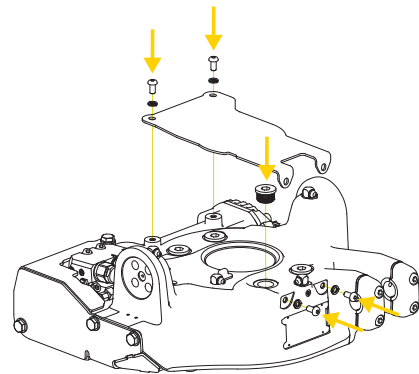

Figure 14. Remove the protective cover.
2. Remove the cover plate (if necessary) and plug to the bolted joint. See Figure 14.